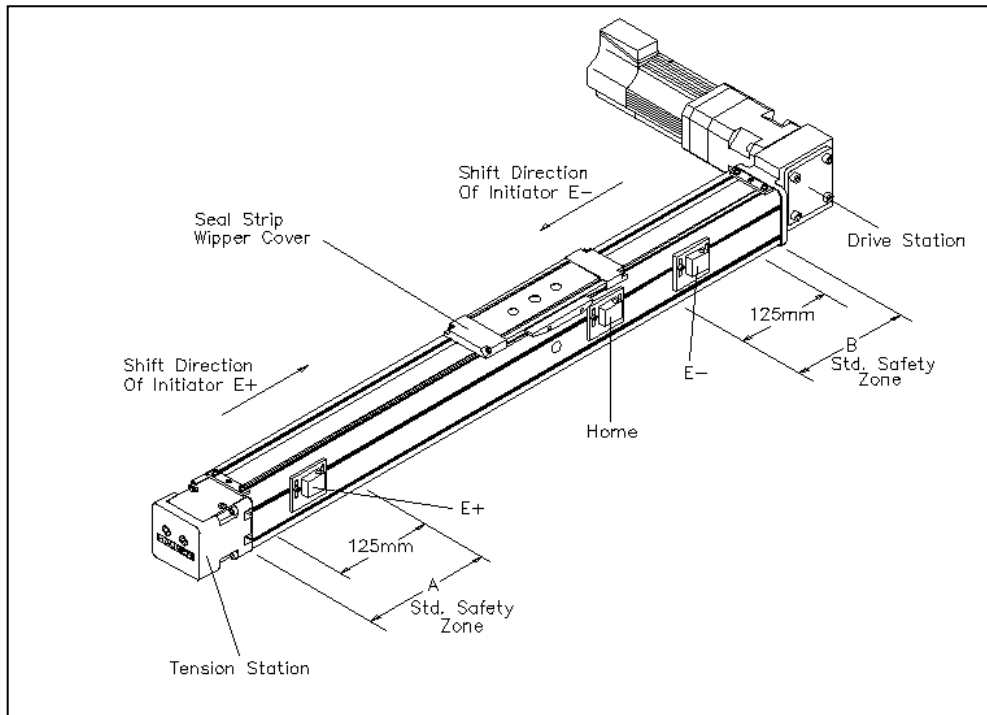

Figure 3: Limit Switches: setting up end of travel limits and safety zones.
2. Arrange limit switches according to sequence given in Figure 3.
3. **E-:** Position carriage with the load attachment plate as indicated in Figure 3 and Table 1 (dimension B). Slide limit switch **E-** from drive station toward the direction of the tension station end until it triggers.
4. **E+:** Re-position carriage with load attachment plate as shown in Figure 3 and Table 1 (dimension A). Slide limit switch **E+** away from tension station in the direction of the drive station until it triggers.
6. Six (6) "T" slot grooves running the length of the profile can be used as conduit for limit switch wire leads. Plastic "T" slot cover secures wires within the groove.